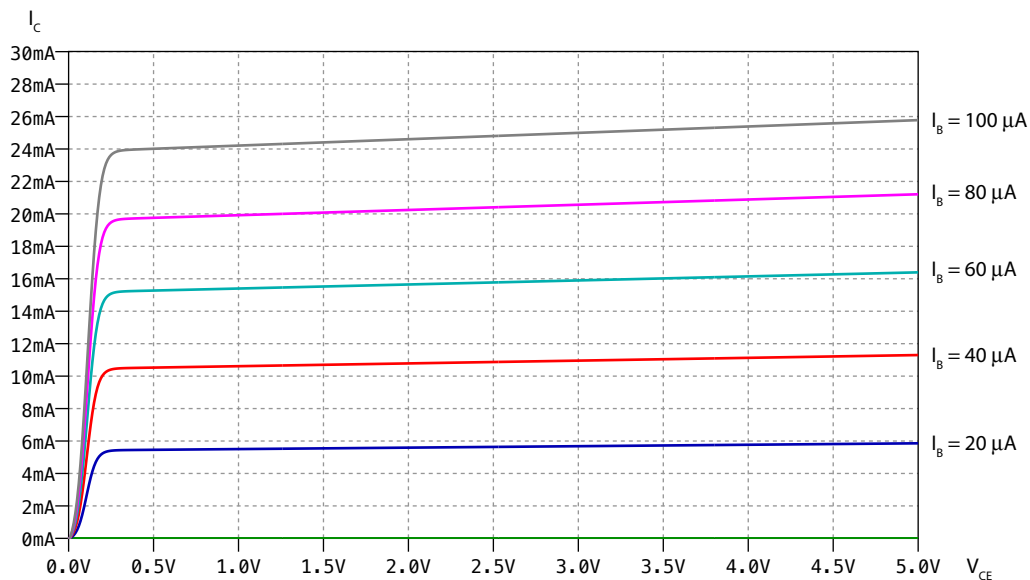
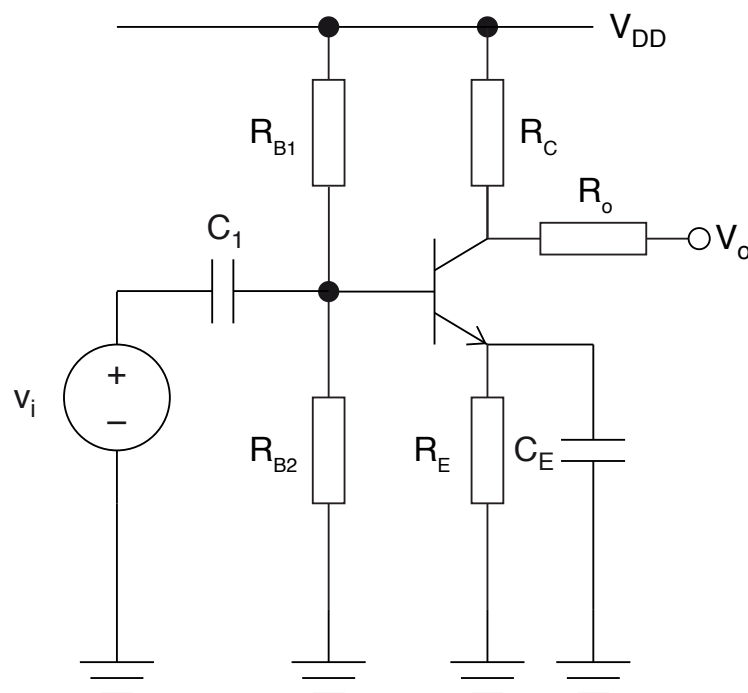
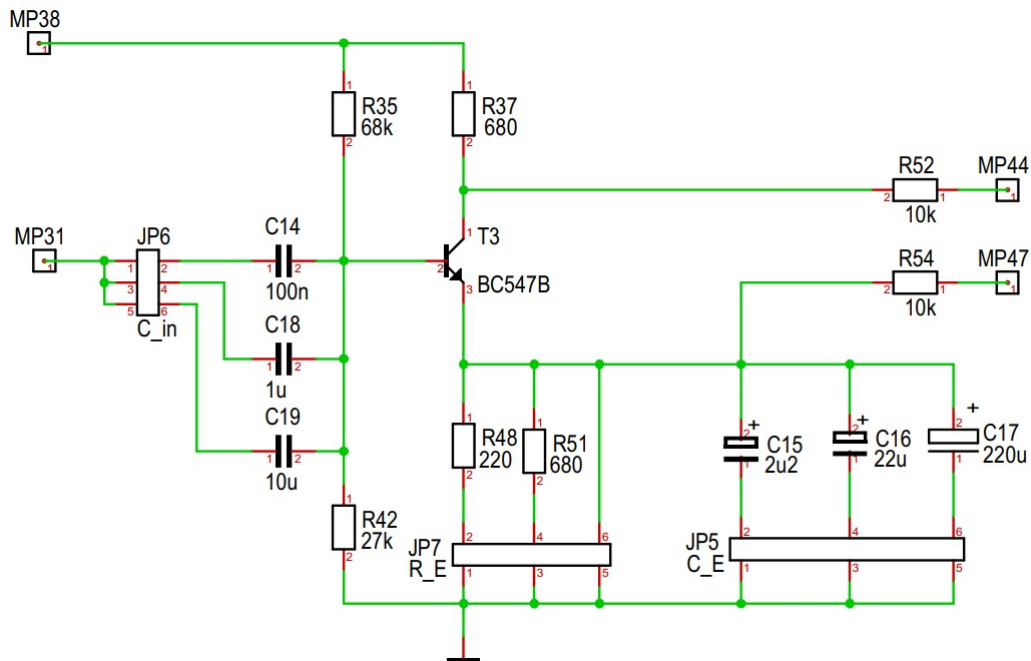

Figure 2.1.1
Figure 2.3.1
Figure 2.3.2: Schematic of the *BJT amplifier* circuit
Consider the CE amplifier in Figure 2.3.1 below, which uses the bipolar transistor whose output characteristics are shown in Figure 2.1.1. Take  $R_o = 0$ ,  $R_C = 680\ \Omega$  and  $V_{DD} = 10\text{ V}$ . If your bias network generates  $I_B = 40\ \mu\text{A}$ , calculate the small-signal voltage gain  $A_V = v_o/v_i$ .
Consider the common-emitter amplifier shown in Figure 2.3.1. We will model the amplifier twice, once in time domain and once in the frequency domain, and compare the results.
- Set up a SPICE implementation of the circuit in Figure 2.3.1, using the following component values found on the electronics board:  $R_{35}$ ,  $R_{42}$ ,  $R_{37}$ ,  $R_{52}$ ,  $C_{14}$ , and  $C_{16}$  (see Figure 2.3.2 below). The transistor model is already included in LTSpice.
In the “BIPOLAR” section of the electronics board, we will use the *BJT amplifier* circuit, shown in Figure 2.3.2.